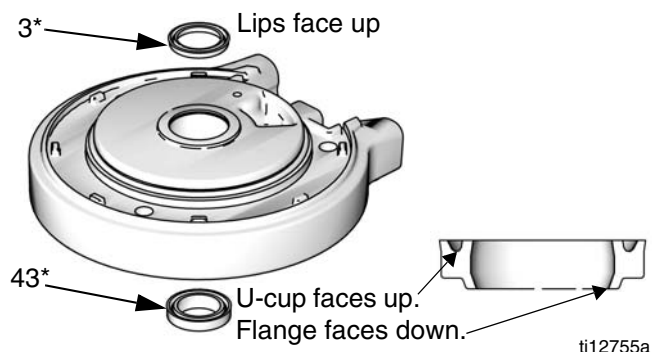

FIG. 11: Air motor u-cup installation
1. Lubricate and install the o-ring (9*) on the top cover (13).
2. **M07xxx, M12xxx, and M18xxx only:** Install the upper bumper (29) on the top cover (13).
3. Lubricate the inside of the cylinder (11). Lower the cylinder (11) onto the top cover (13).
4. Lubricate and install the o-ring (8*) around the piston (5).
5. Slide the piston assembly (5) down into the cylinder (11). Be sure the o-ring (9*) stays in place.
6. Install the shield (12) around the cylinder (11) and in the groove on the top cover (13).
7. See FIG. 11. Lubricate and install new u-cup seal with flange (43*) in the bottom of the bearing in the bottom cover (1). The u-cup must face up and the flange must face down. Lubricate and install new u-cup seal (3*) in the top of the bearing. Lips must face up.